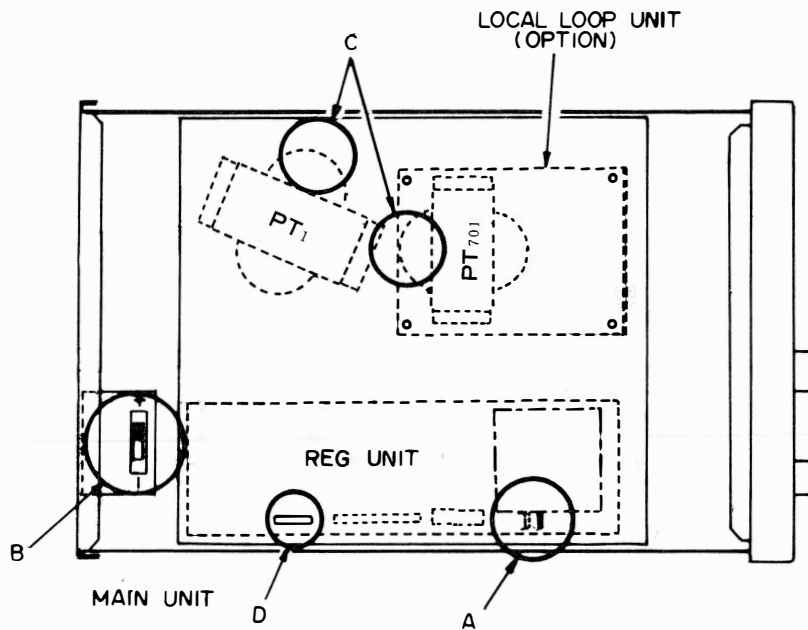
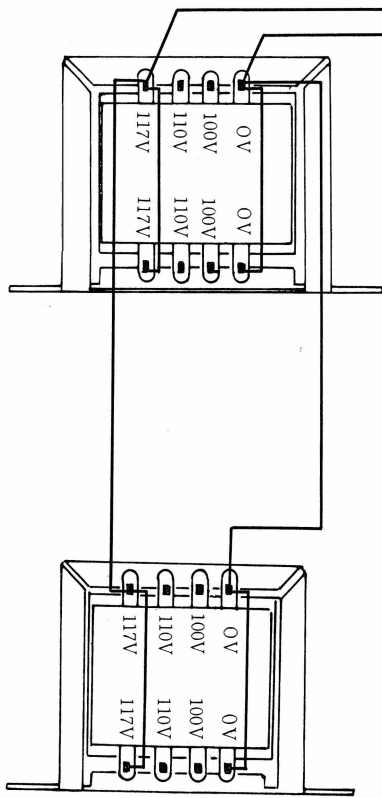

Fig. 13
Fig. 18
Locate switch B in Figure 13. Set this switch to – for negative keying. When returning to a transceiver using positive keying, this switch must be returned to +.
- (1) Remove the case of the YR-901. Remove the Molex plugs from the sockets on the MAIN UNIT, and note their position carefully. Remove the mounting screws for the MAIN UNIT, and remove this unit from the case.
- (2) Install the LOCAL LOOP UNIT in the position shown in Figure 13, being certain to position it correctly (the power transformer of the LOCAL LOOP UNIT should be adjacent to the main power transformer). Now connect the two parallel wires shown in Figure 18 between the LOCAL LOOP power transformer and the main power transformer. Check to make sure that the primary winding on the LOCAL LOOP transformer is the same as that on the main transformer.
- (4) Locate the 5-pin connector from the LOCAL LOOP UNIT. Connect this to J₂₀₄, marked D in Figures 13 and 14.
- (5) Carefully re-install the MAIN UNIT, being especially careful not to bend the leads of the various connectors. Close up the case.